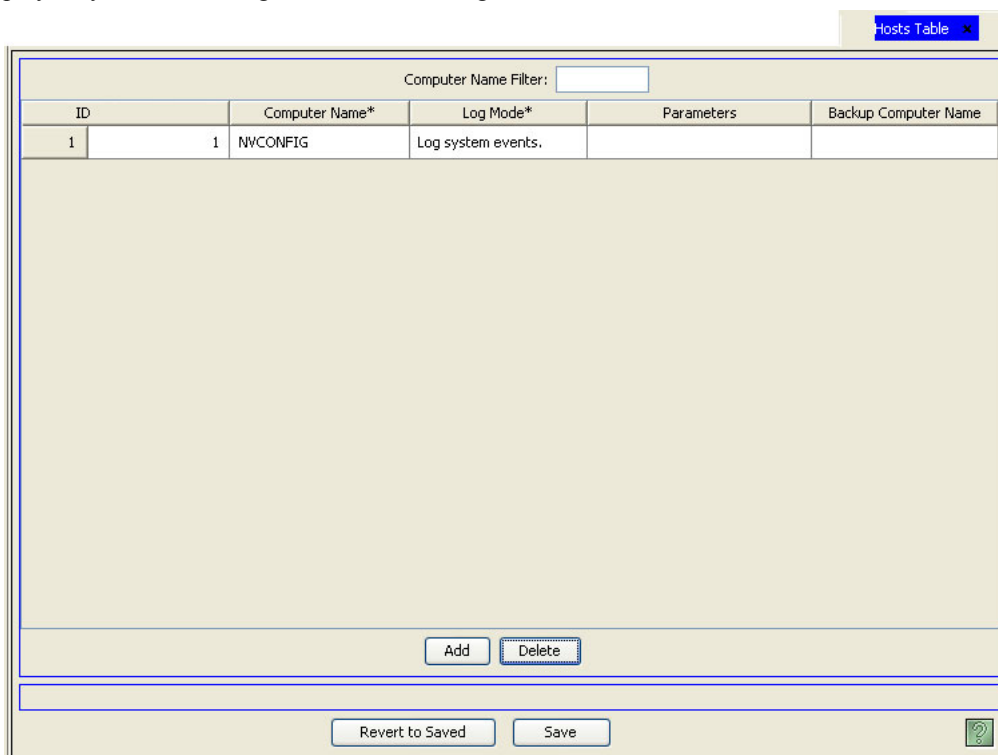

Figure 5-7. Hosts Table
- 2 From the Navigation area, select the 'Views' pane and then 'Hosts'. The 'Hosts' table appears, as shown in Figure 5-7.